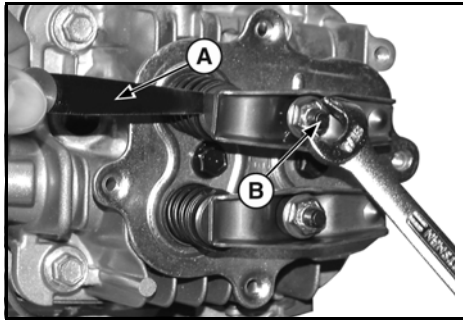

Figure 42
1. Using a feeler gauge (A, Figure 42) adjust the locking hex nut (B) to obtain the correct clearance as listed in Section 12 - Engine Specifications.